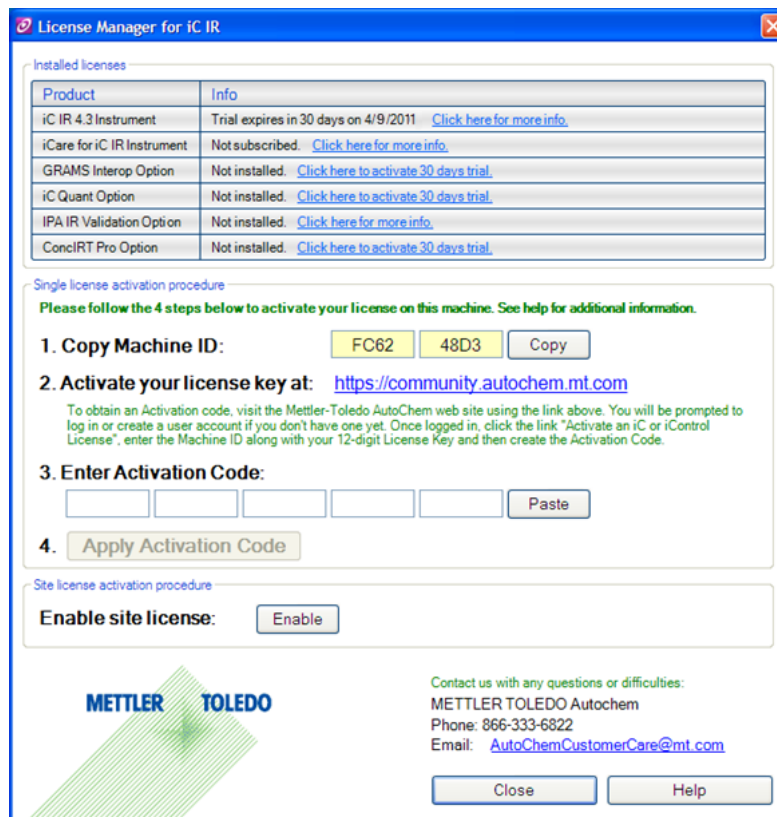

Figure 3—License Manager dialog box
- In the License Manager dialog box (**Figure 3**), click **Copy** after step 1 to copy the machine ID to your clipboard.